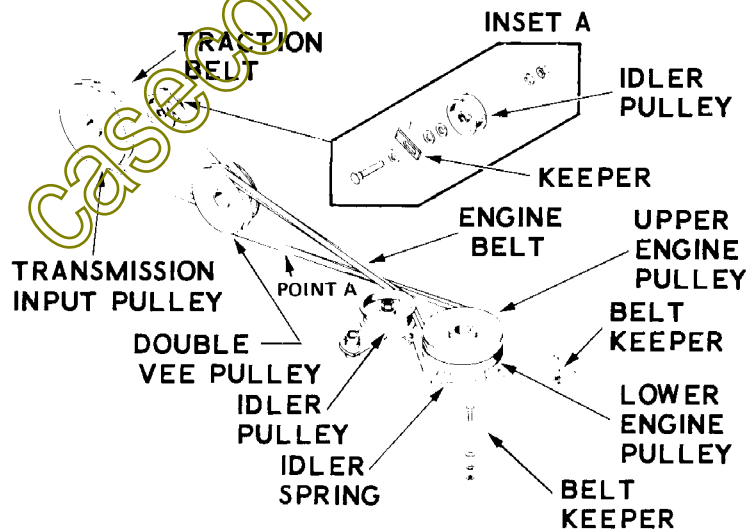

Figure 4. Model 107 Traction Belt Drive System.
- f. With the front wheels turned as far as possible to the "right", install the new belt first on the Double Vee Pulley, then the Idler Pulley and last on Lower and Upper Engine Pulleys as shown in Figure 4. Make certain the belt is properly installed as illustrated with the flat "back" side against the idler pulley and the "V" side in the Vee Pulleys. If the belt is accidentally looped the wrong way, reverse rotation of the transaxle will occur resulting in 3 speeds reverse and one speed forward.
2. Apply the C 16739 to point A (Figure 4) to reduce belt vibration. This idler should be positioned on the frame rail so it just touches the backside of the engine belt. (Figure 5.)